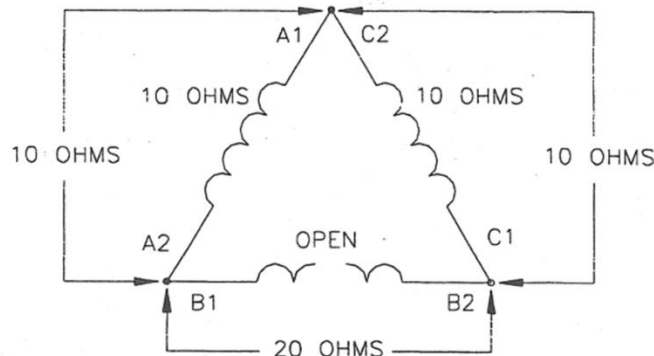

Figure 5 - Three terminal Motor terminal block - delta connected.
27. **Three Terminal Motor - Delta Connected** If there is an open circuit in one of the phases of a delta connected motor the resistance reading should be low between two pairs of terminals, and the resistance measured between the remaining two terminals should indicate the resistance of two phase windings in series (double the resistance between the other pairs) –as shown in Figure 5.